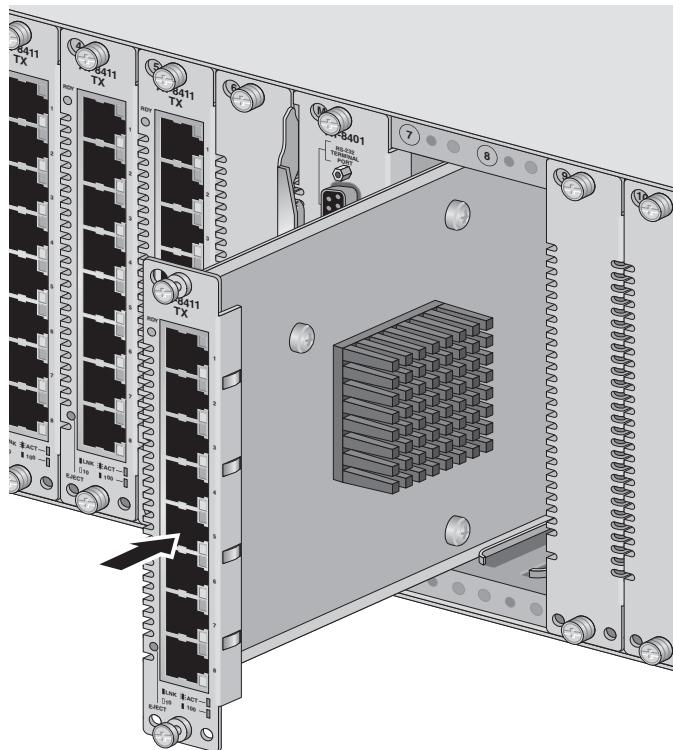

Figure 33 Installing the AT-8411 Line Card into slot 7
7. Align the edge of the line card with the top and bottom guide rails as you carefully slide the line card into a slot. See Figure 33 below.